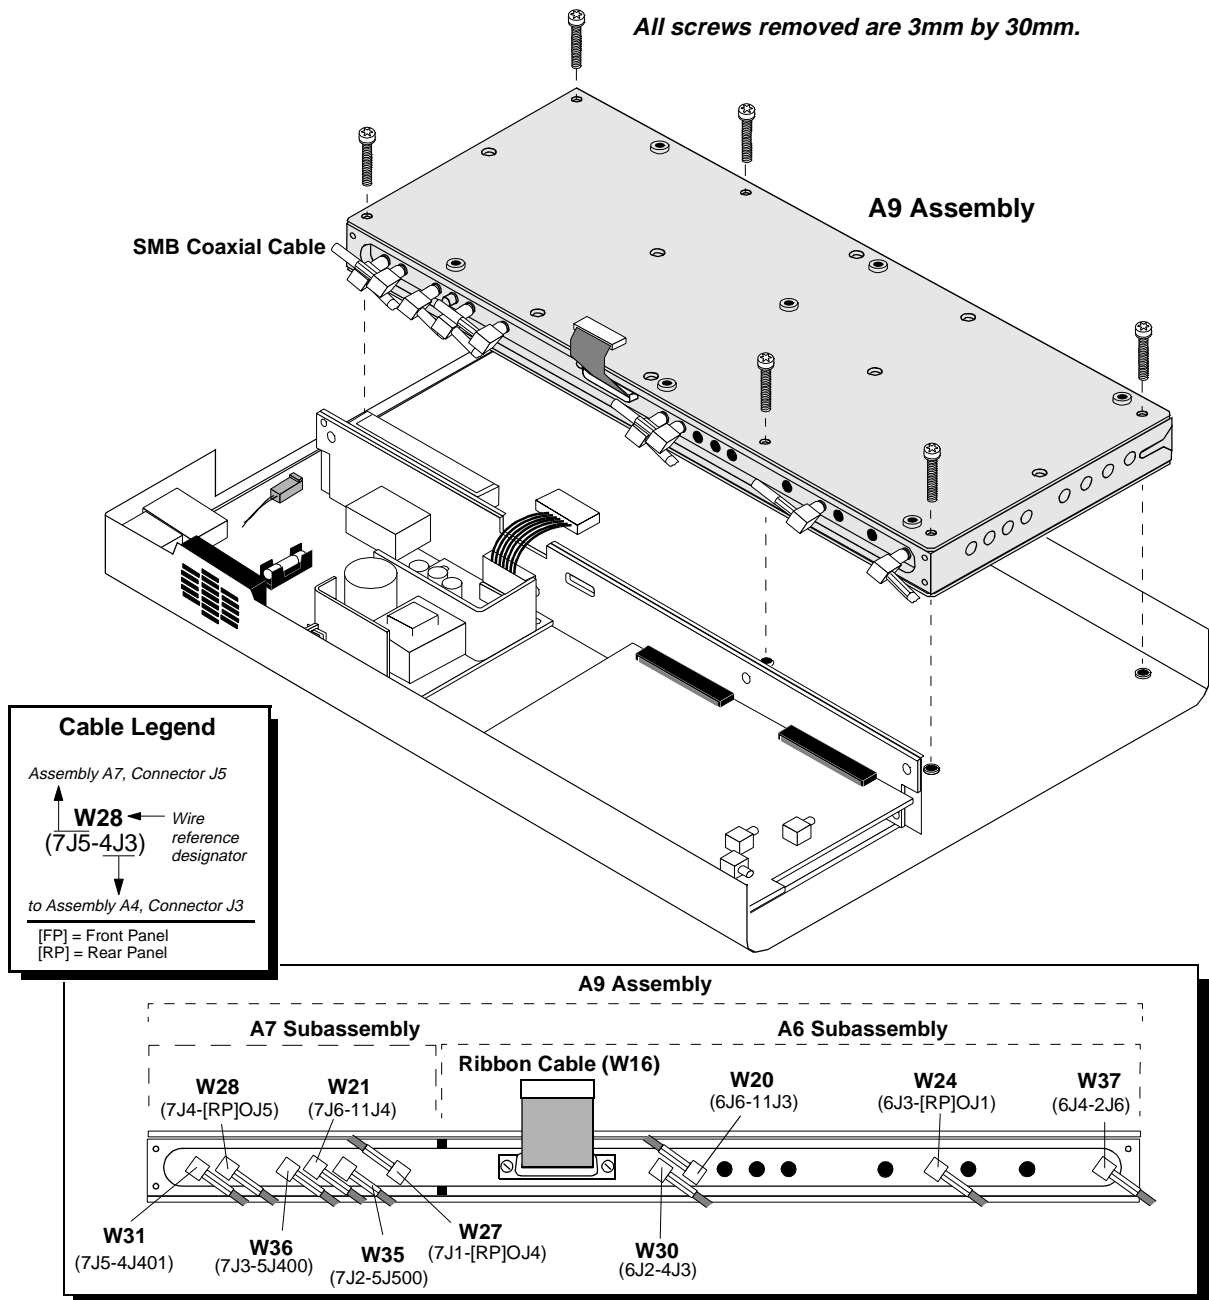

Figure 26 **Removing the A9 Reference/IQ Assembly**
5. Remove the 6 screws that secure the A9 assembly to the deck, see figure 26 on page 75, and carefully lift the assembly from the deck.
6. Disconnect the SMB connectors from the A9 assembly, see figure 26. The SMB cables are identified with cable clips.
This completes the removal and disassembly of the A9 assembly unit. When reassembling the A9 assembly, use figure 26 on page 75 to help you determine the location of the SMB coaxial cables which are identified with cable clips.